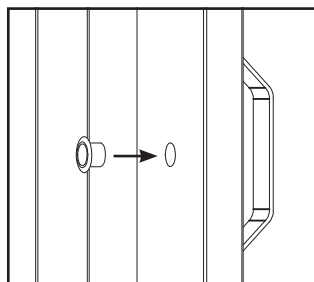

Figure 6. Pre-drilling for Finger Pull
2. Press finger pull into pre-drilled hole as shown in figure 6